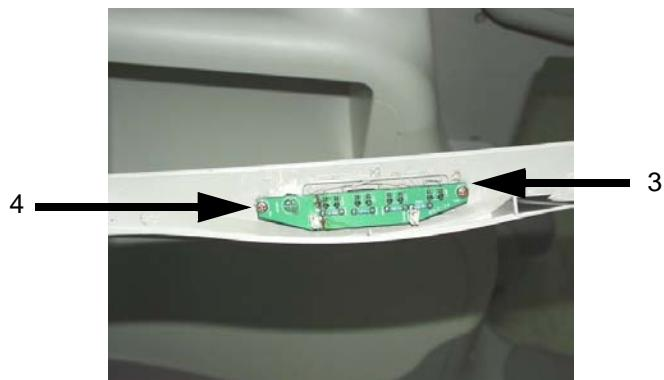

Figure 8-11 Unscrew 2 screws
- 3.) Unscrew two screws (3-4) from the Monitor Cover Front. Refer to Figure 8-11.